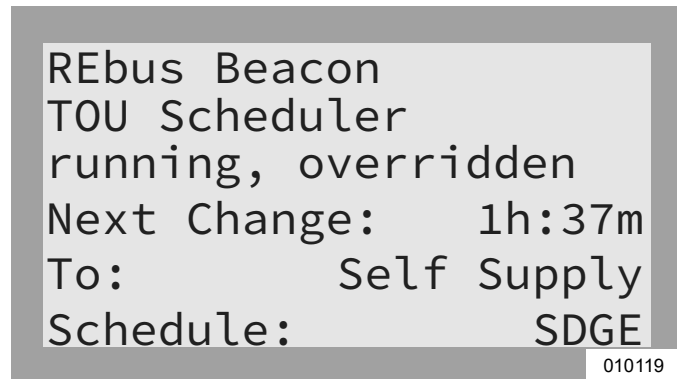

Figure 6-27. Overriding TOU Scheduler
- See Figure 6-27. Running, Overridden will display on the Beacon device page.